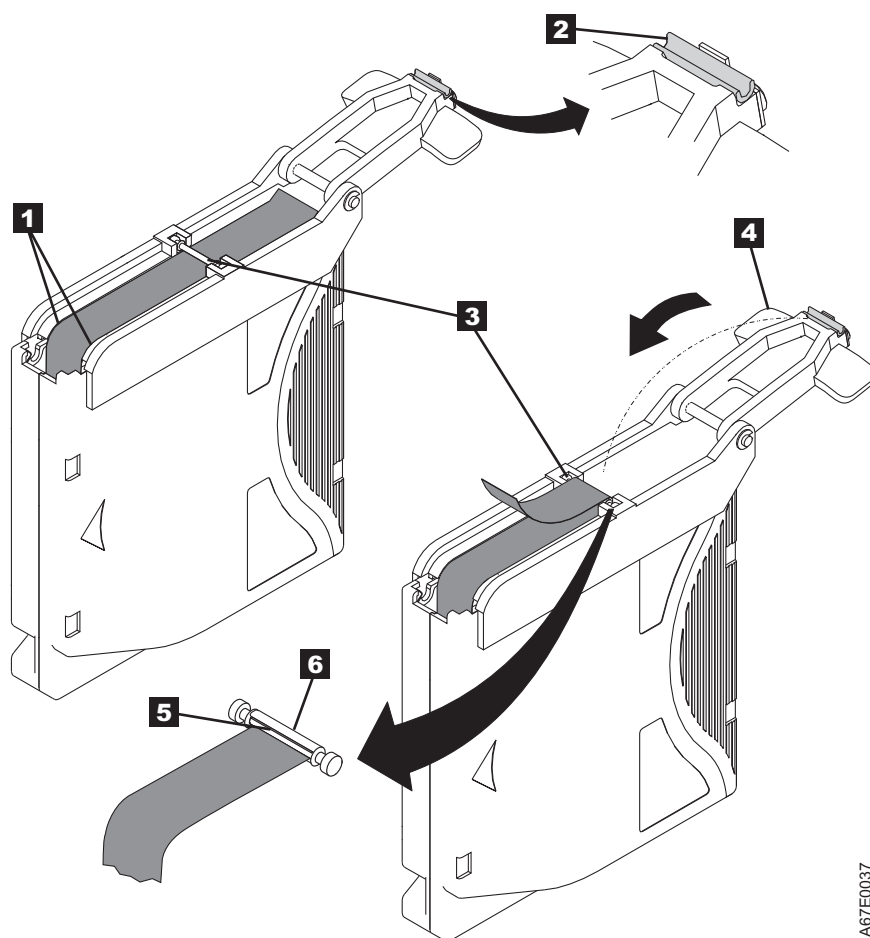

Figure 6-15. Attaching the leader pin to the tape
7. Position the tape in the alignment groove of the leader pin attach tool (see **1** in Figure 6-15 on page 6-18).
8. Place a new C-clip into the retention groove **2** (Figure 6-15 on page 6-18) on the leader pin attachment tool and make sure that the clip's open side faces up.
9. Place the leader pin (from step 6) into the cavity **3** (Figure 6-15 on page 6-18) of the leader pin attach tool.
10. Fold the tape over the leader pin and hold it with your fingers (see Figure 6-15 on page 6-18).